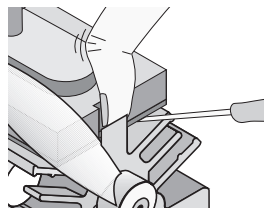

Figure 3. Removing the Time Pulse Accessory
- 2) Unplug and remove as shown in Figure 3.